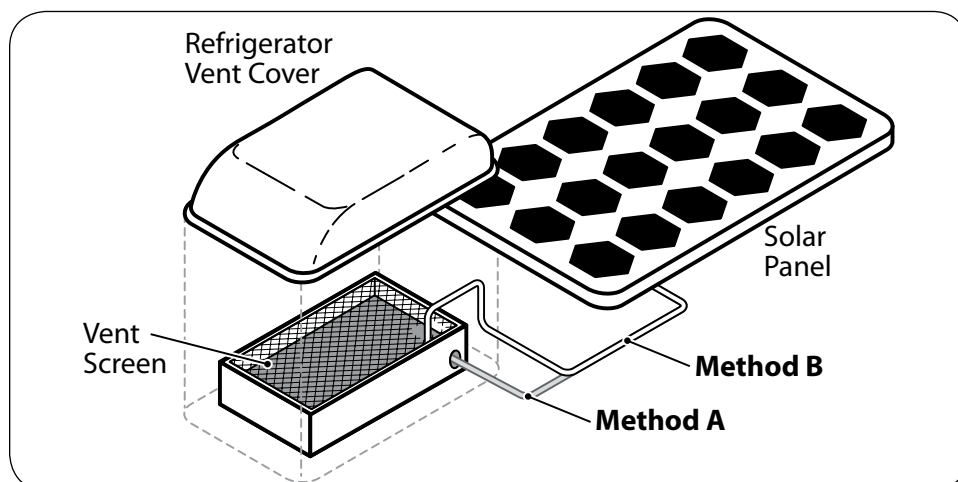

Fig. 8.5 PV Wire Entry Through RV Vent
5. The wire pair from the solar panel can be routed to the interior of the RV through the roof-top refrigerator vent. Find where the refrigerator vent is located on the roof of the RV. See Fig. 8.5.